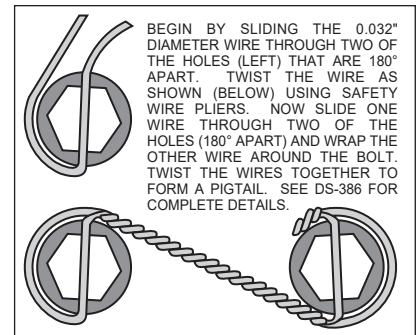

Figure 4. Safety Wire Diagram
- With the larger I.D. side of the rotor (11) facing away from the hat (12), bolt rotor (11) to hat (12) through the backside of the rotor using washers (13) and bolts (14). Torque bolts (14) to 85 **in-lb**. Safety wire bolts (14) using standard 0.032 inch diameter stainless steel safety wire as shown in Figure 4. Please refer to Wilwood's data sheet DS-386 (available at [www.wilwood.com/Pdf/DataSheets/ds386.pdf](http://www.wilwood.com/Pdf/DataSheets/ds386.pdf)) for complete safety wire installation instructions.
- Slide the rotor/hat assembly over the studs (7) in the hub (8) taking care to align the small countersunk holes in the hat (12) with the small threaded holes in the hub (8). Install three flat head socket screws (15) through the small holes in the hat (12) and torque to 85 **in-lb**.
- Pack the small outer bearing cone (16) with high temperature disc brake bearing grease and install into front of hub (8). Slide the hub/rotor assembly (8 and 11) with outer bearing cone (16) onto the spindle. Secure using spindle washer (17), stock adjusting nut and nut locking device. Adjust bearings per Original Equipment Manufacturer (OEM) specifications.
- Install the dust cap (18) and o-ring (19) onto the hub (8). Friction created by the o-ring (19) on the dust cap (18) keeps it from unscrewing.